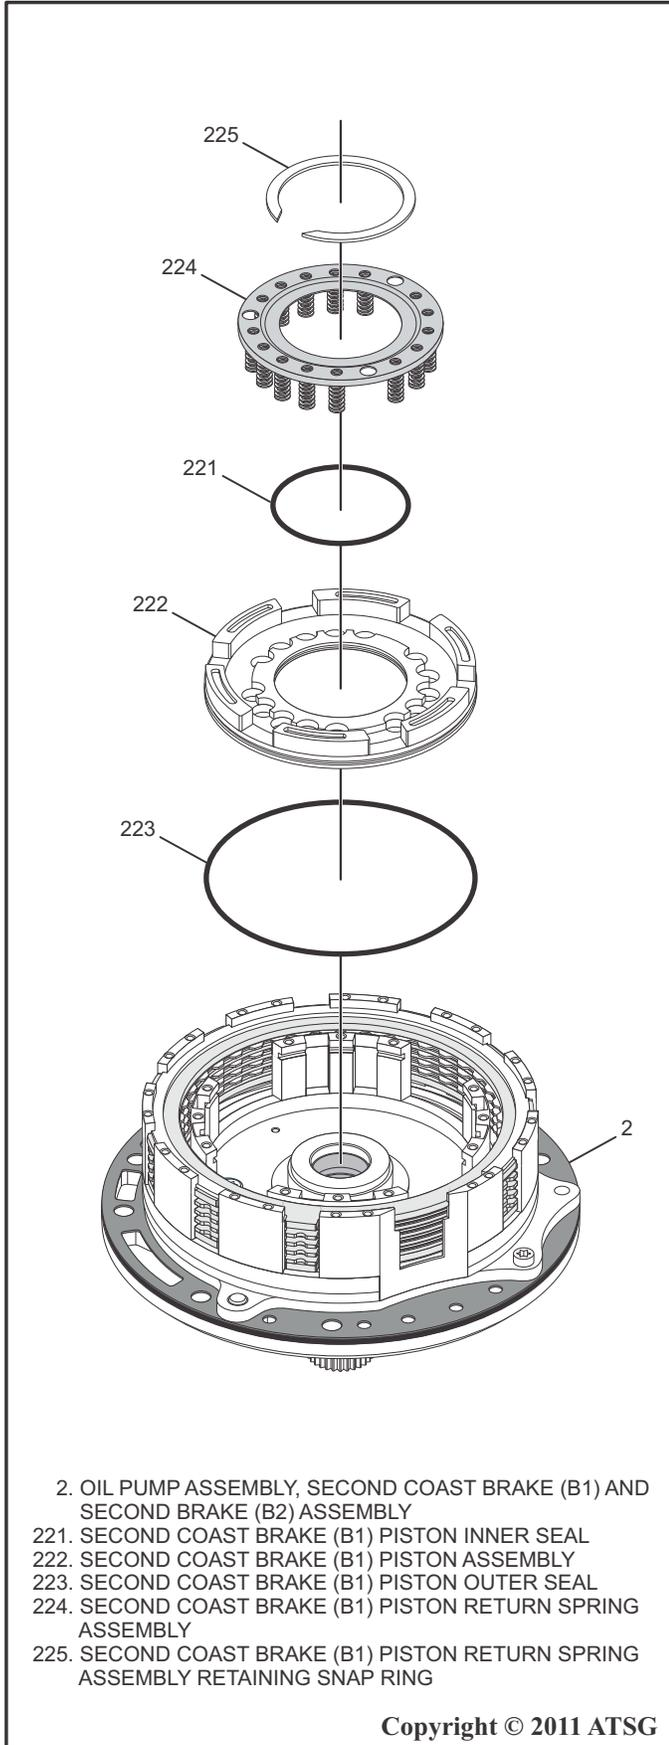

Figure 110
50. Install a new Inner O-ring and Outer O-ring Seal into the Second Coast Brake (B1) Piston as shown in Figure 110.
52. Carefully install the Second Coast Brake (B1) Piston Assembly into the pump assembly using a twisting motion as shown in Figure 110.
53. Install the Second Coast Brake (B1) Piston Return Spring Assembly aligning the springs into the piston as shown in Figure 110.
54. Using SST J 23327, and J 41236 or other similar spring compressor tool, compress the Second Coast Brake (B1) Piston Return Spring Assembly, and install the Piston Return Spring Retaining Snap Ring into the pump body assembly using a pair of snap ring pliers or a small screwdriver as shown in Figure 110.